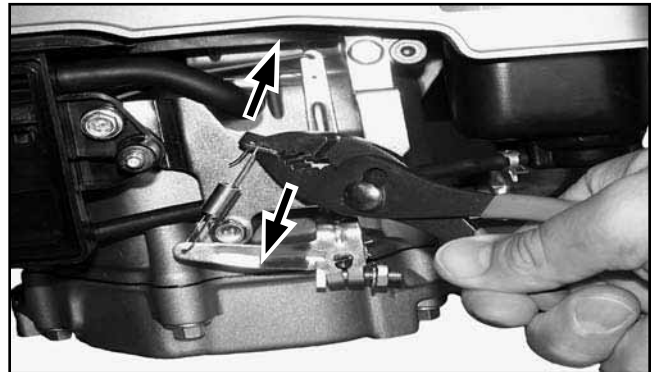

Figure 5-5. Engine Speed Adjustment Tab.
1. Bend the adjustment tab on the speed control bracket up to increase engine speed, and down to reduce speed. See Figure 5-5.